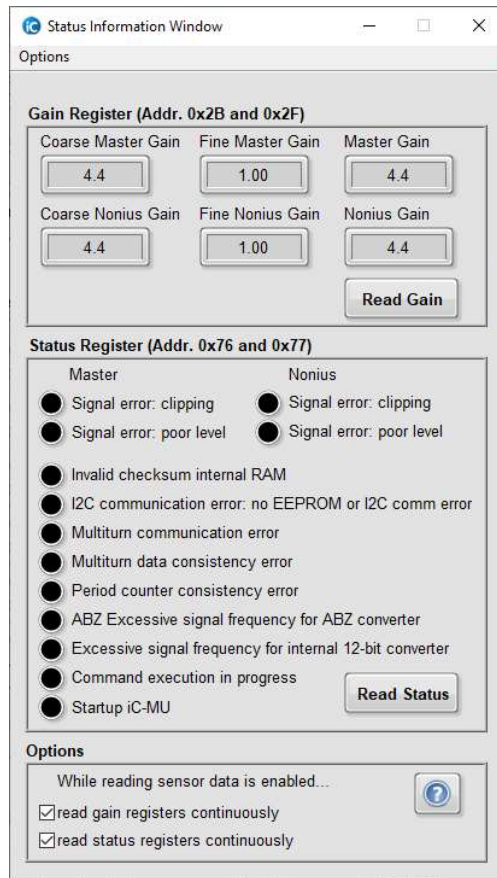

Figure 19: iC-MU Series GUI, Status Information Window
- (b) Select the <Show Details> checkbox. This will bring up the Status Information Window (see Figure 19).